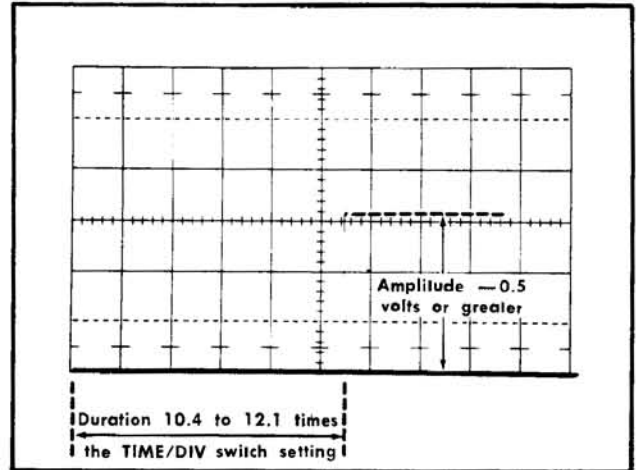

Fig. 5-21. Typical test oscilloscope display when checking the gate output signal. Vertical deflection, 0.2 volts/division; sweep rate, 2 milliseconds/division.
- CHECK—Test oscilloscope display for 2.5 divisions or greater amplitude with the top of the waveform at the zero volt level. Gate duration should be 5.2 to 6.05 divisions (—0.5 volt or greater amplitude with duration of 10.4 to 12.1 times the TIME/DIV switch setting; see Fig. 5-21).